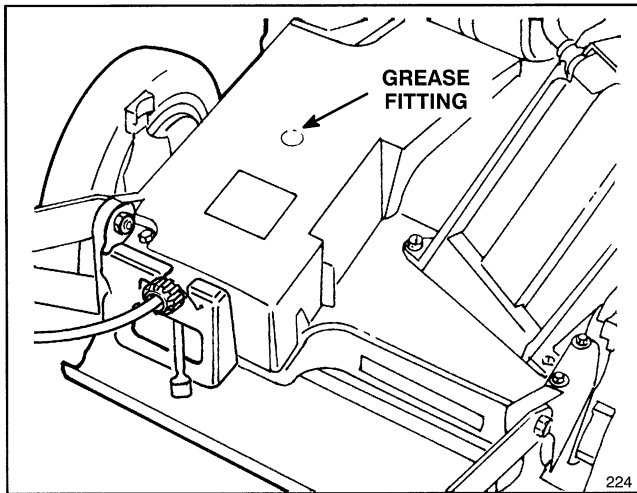

Figure 29
2. Install grease gun onto fitting thru belt cover opening (Fig. 29). Gently apply 1–2 pumps of grease.